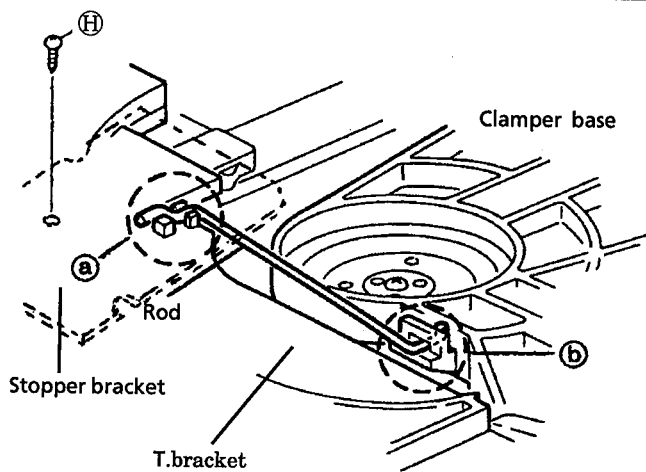

Fig. 6
2. Remove the screw ⑧ holding the stopper bracket.(See Fig.6) --- (U.S.A and CANADA only)
3. Remove the rod from both ends' hooks which are secured on T.Bracket ⑩ and clamper base ⑥. [See Fig. 6)